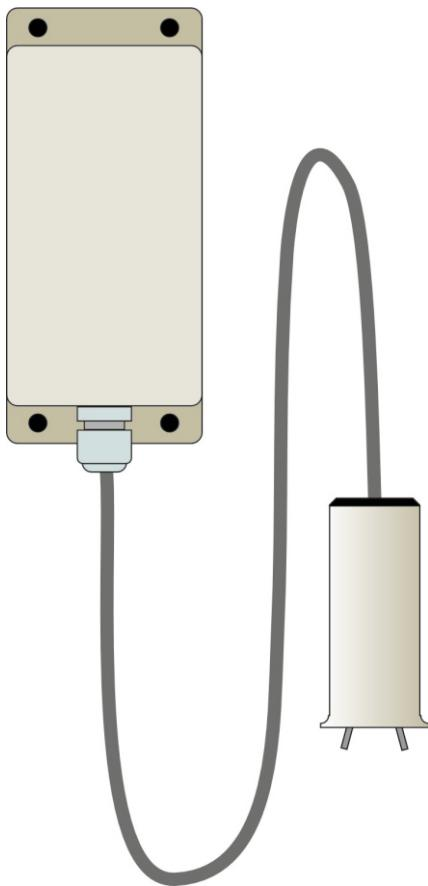

FIGURE 1
- A. A transmitter mounted in the tank or pumphouse with a sensor monitoring the liquid level. (Figure 1)